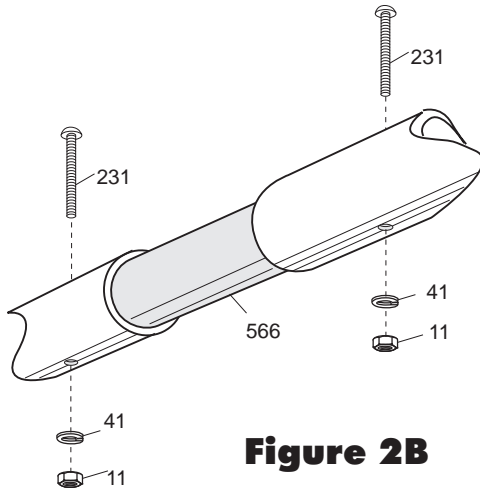

Figure 2B
Figures 2A and 2B show the steps required for element assembly. Slide EB sections over fiberglass insulator (566) until #8 screw holes line up (Figure 2B) . Insert screws (231) through holes and secure with lock washer (41) and nut (11). Pay close attention to all dimensions shown.